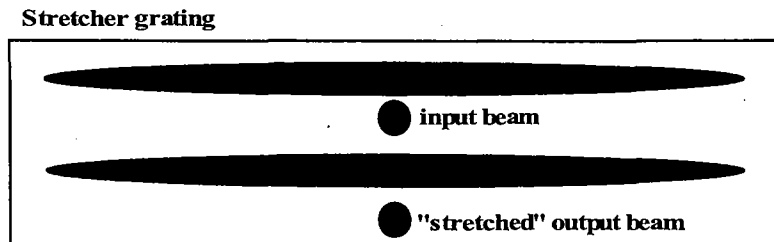

Fig. 6.3 Spatially dispersed spectrum on the stretcher grating
- 19) Adjust the rotation of the grating assembly so that the stretched beam pattern on the grating appears as shown in Fig. 6.3. Use an IR viewer to verify this.